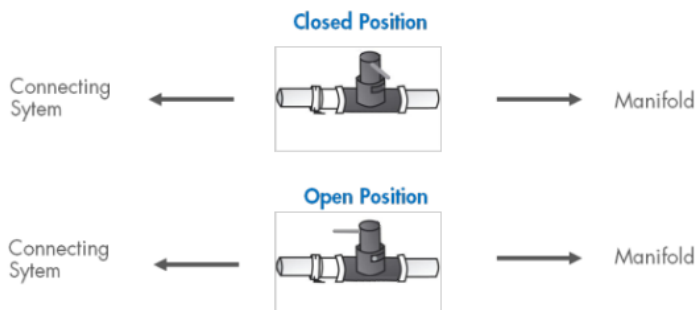

Figure 9. Main vacuum valve in the closed and open position.
5. Close the main vacuum valve as shown in Figure 9.